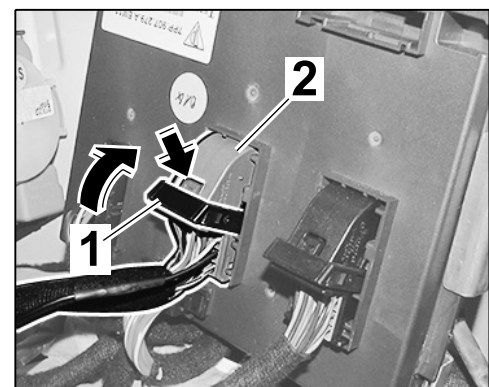

Figure 19
2.3.4 Release the center electric plug connection ⇒ *Figure 19-2*- (blue) by pressing the locking mechanism ⇒ *Figure 19-arrow*- and swivel the clip ⇒ *Figure 19-1*- upwards ⇒ *Figure 19-arrow*-.